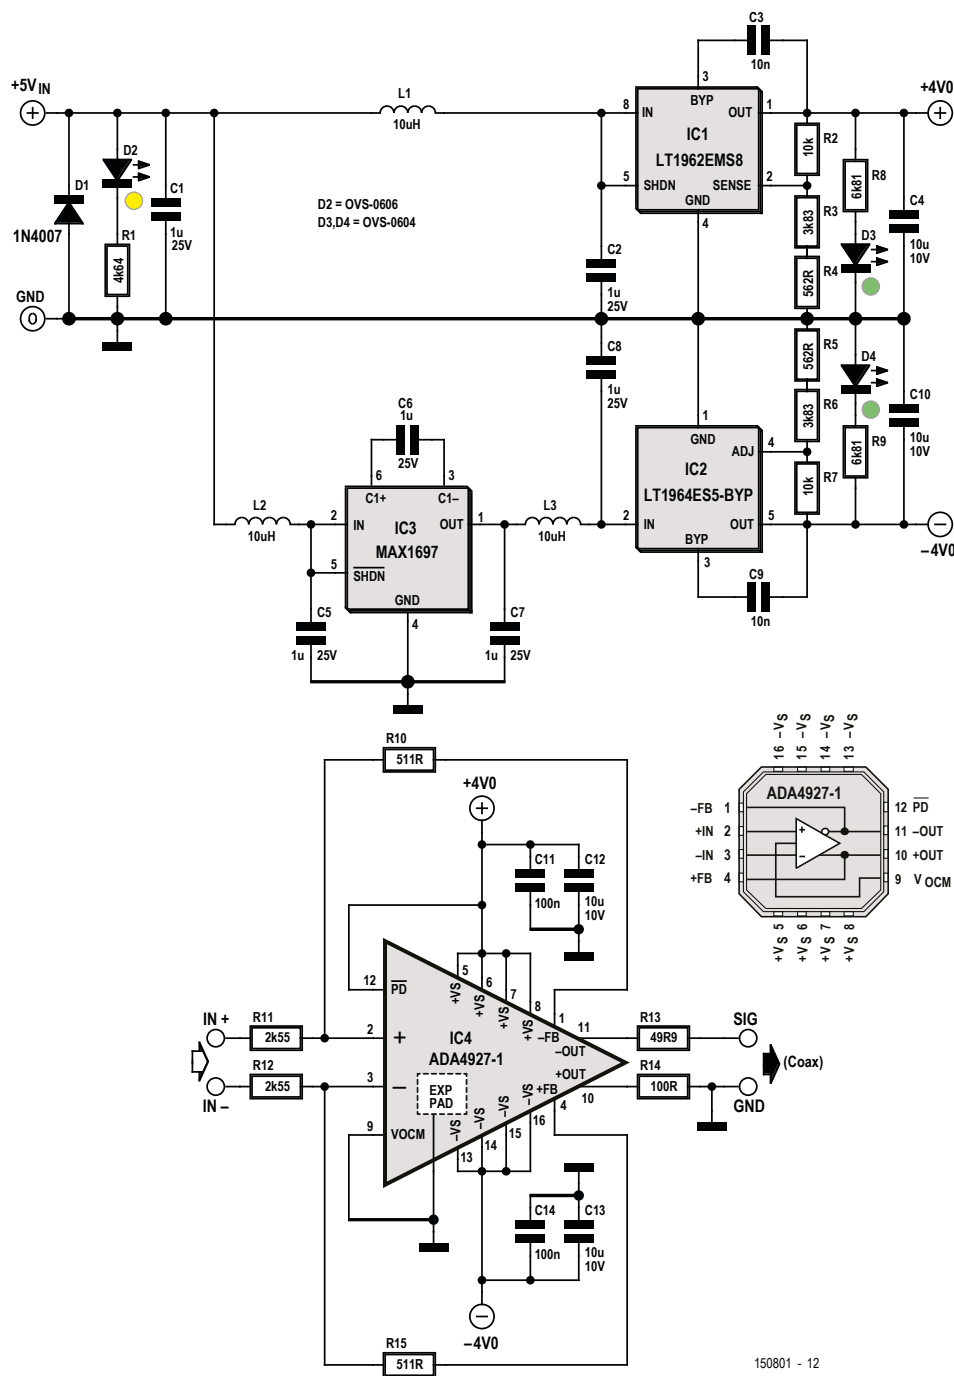

Figure 2. The complete schematic. The section surrounding the differential amplifier (IC4) is fundamentally unaltered.
**Figure 2** shows the complete schematic. IC1, an LT1962EMS8, provides the stabilized positive supply voltage. The same function is performed for the negative voltage by IC2, an LT1964ES5. A MAX1697 (IC3) serves as charge pump.